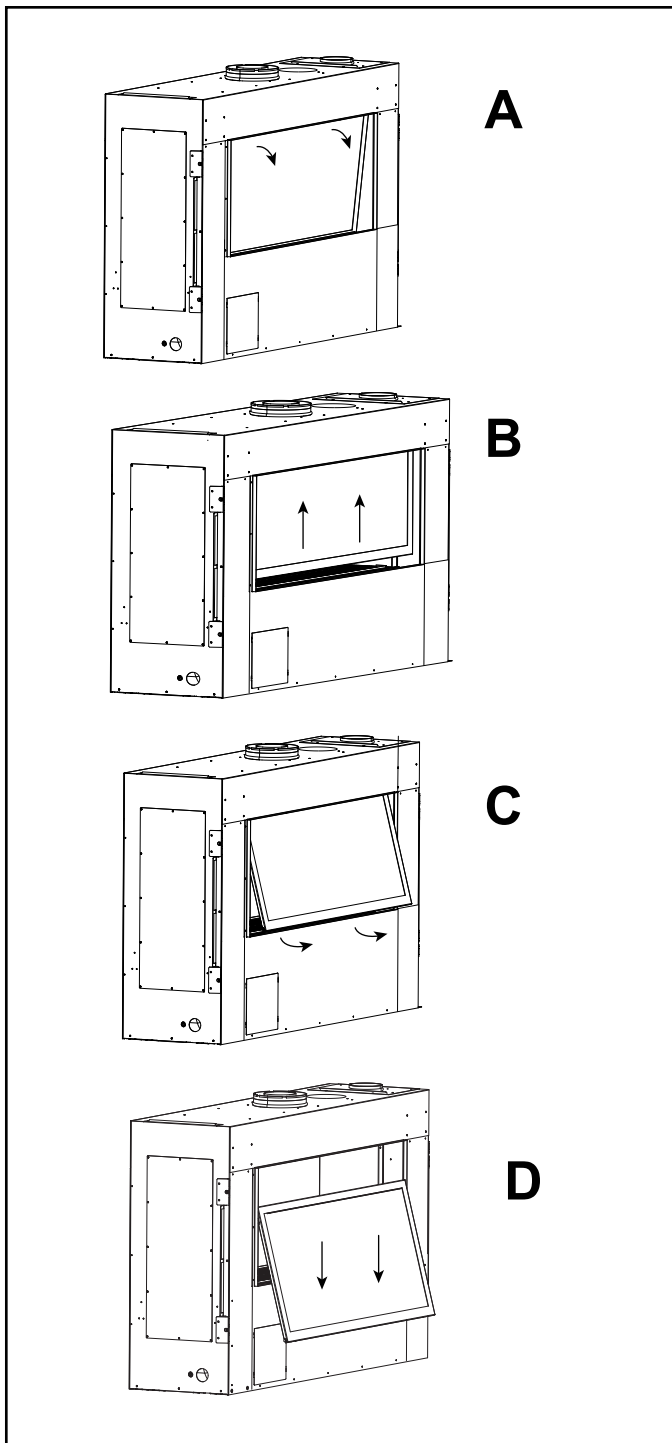

Figure 11.15 Removing Firebox Glass
6. Press glass suction cups firmly against glass and ensure that an adequate hold has been created. Lift up, then lower the glass assembly downward toward the firebox control cavity. Tip it outward slightly and lift out of appliance. See Figure 11.15.